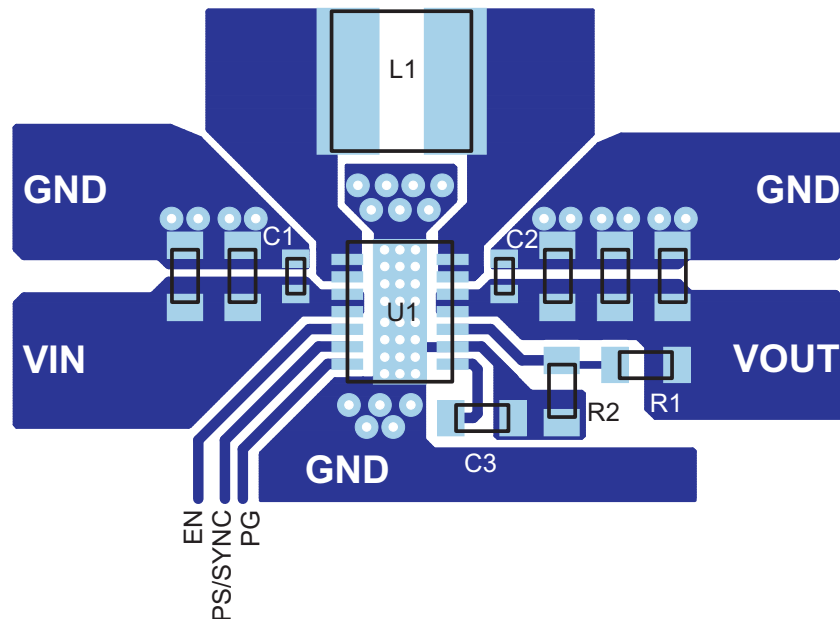

Figure 23. PCB Layout Suggestion
- Updated Figure 23 - PCB Layout Suggestion 19